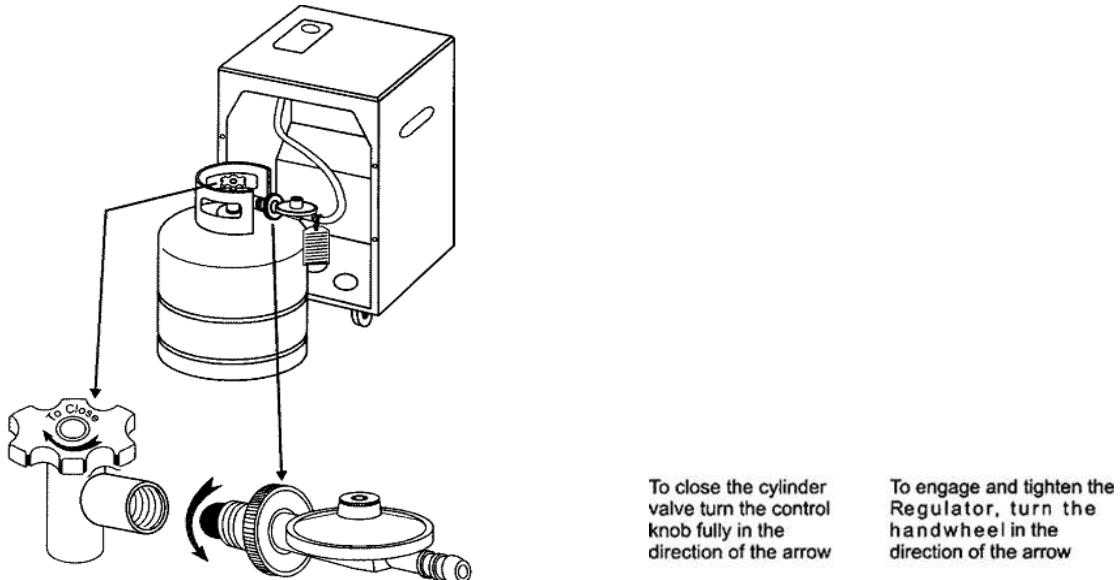

Fig.1
- Screw the regulator onto the outlet of the gas cylinder valve, anti-clockwise. Turn by hand only. Do not use a spanner. Screw on until the nut is fully stuck (Fig. 1).